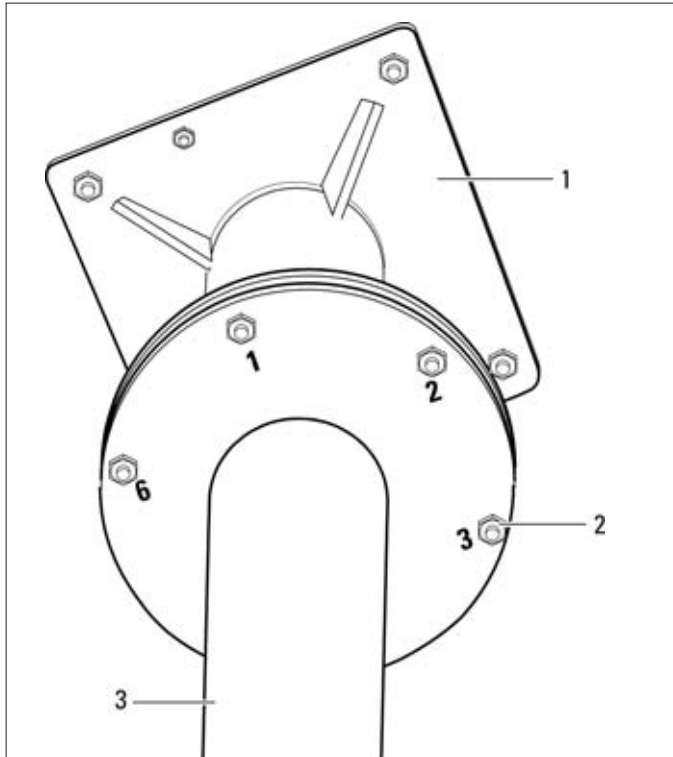

Fig. 1
⇒ Travel the Mini Mount (3) to the ceiling and fasten it makeshift to the bracket/ceiling plate (1) by means of 6 M12 nuts (2) (Fig. 1).